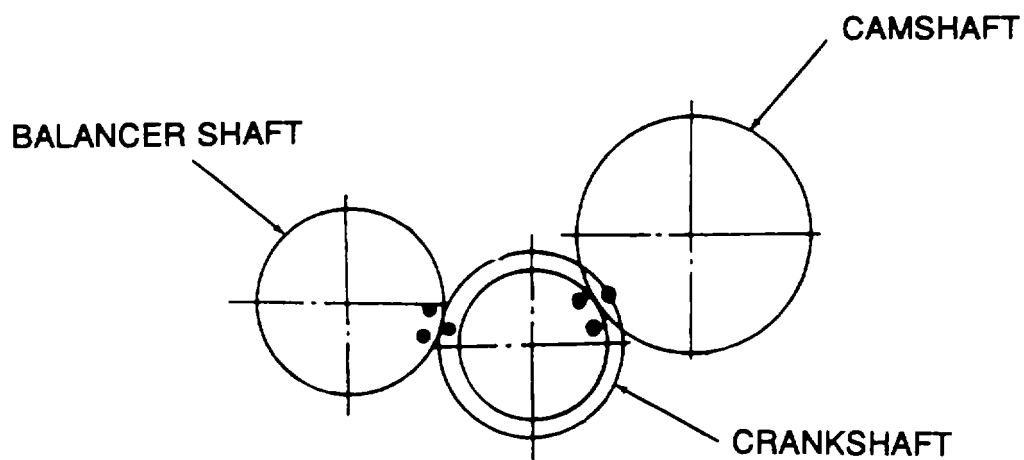

Figure 6-9. Rotating Group Timing Marks.
- (1) Insert the balancer shaft assembly (1) into the cylinder block (2).
- (2) Refer to Figure 6-9. Make sure the timing marks (1) on the balancer gear (2) and the crank gear (3) are aligned.